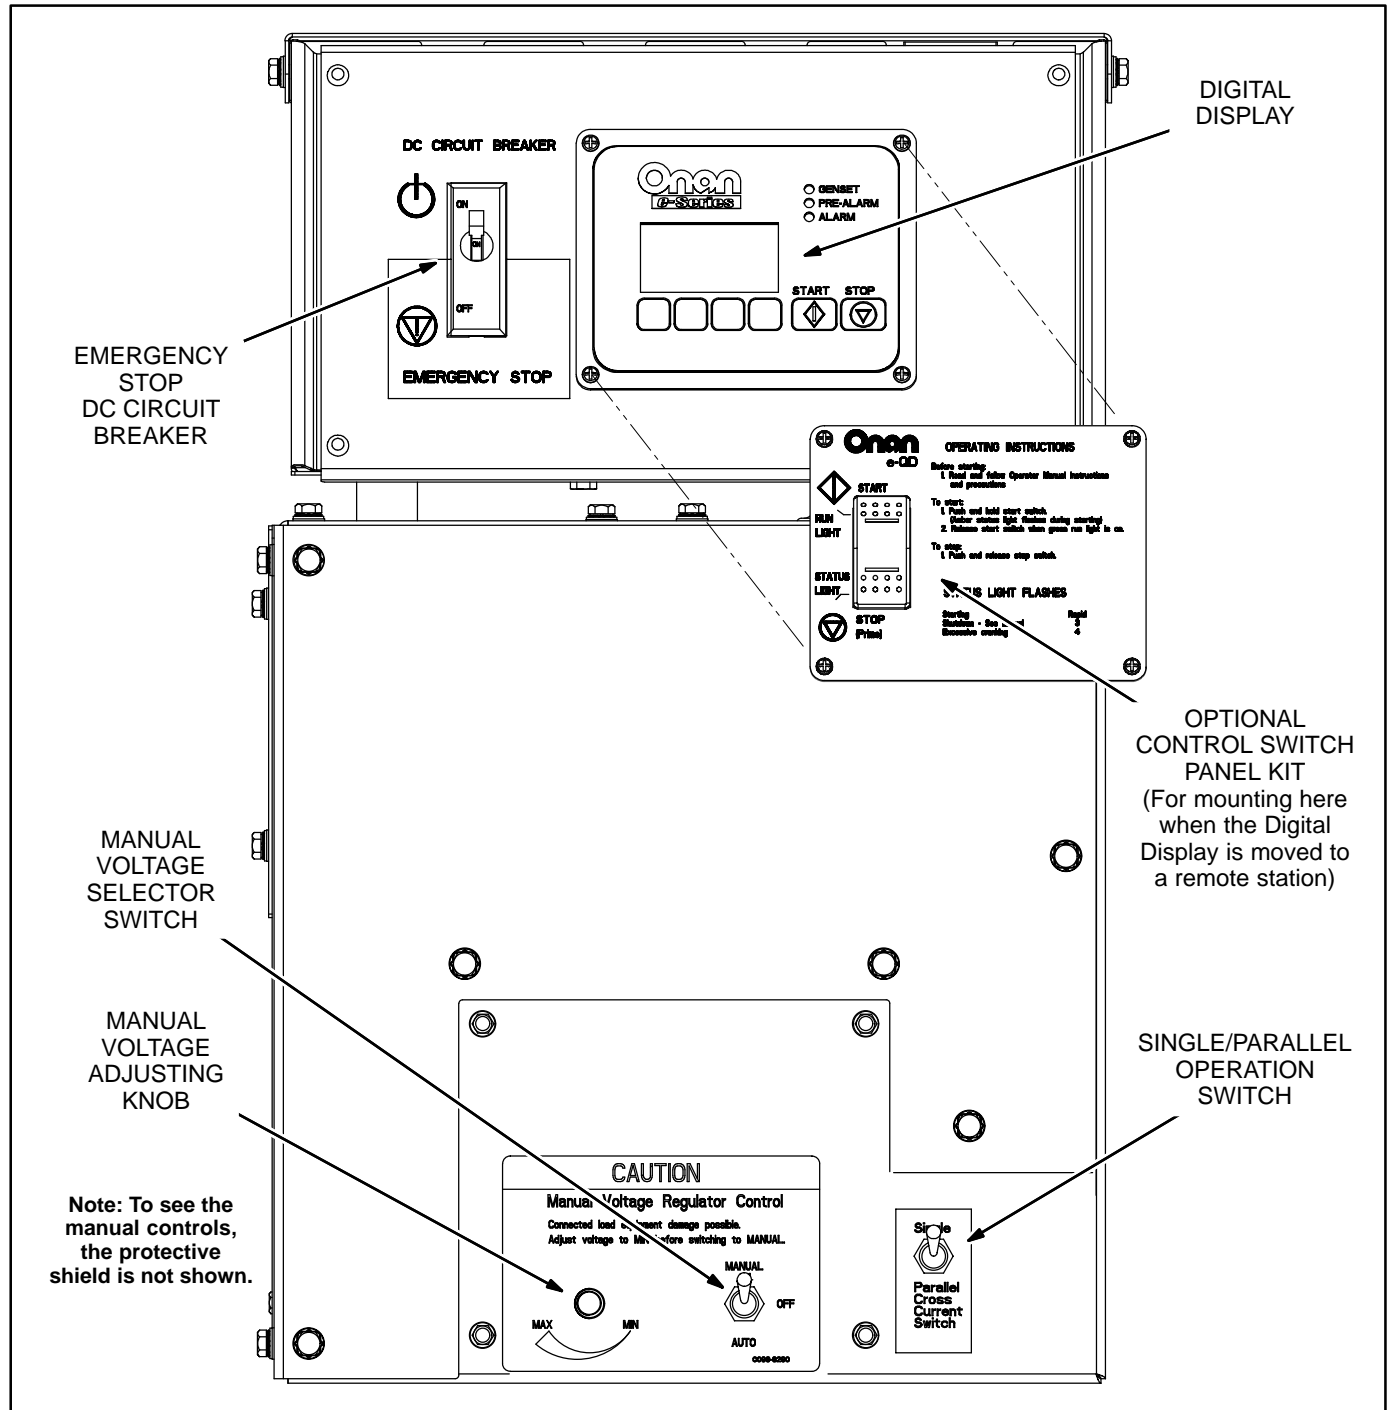

FIGURE 2-1. GENSET CONTROL PANEL
gensets will have a single/parallel operation selector switch. It may also have a manual voltage regulator. If the genset has a housing, remove the front panel for access to the selector switches and manual voltage adjusting knob. See Figure 2-1.
A PMG-excited generator is designed for paralleling applications. A current transformer (CT) is provided to detect reactive current so that excitation can be regulated between the generators. The switch shorts the CT circuit for single generator operation. See Figure 2-1.
AUTO POSITION: The manual voltage control switch must be in **AUTO** for normal, automatic voltage regulation. See Figure 2-1.